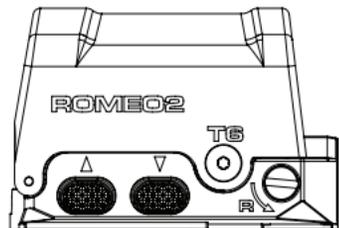

FIG. 4
B. **FULL SHROUD** with sealed rear polycarbonate window. This configuration adds drop and impact protection as well as a water-resistant seal, to prevent foreign materials and moisture from entering the LED emitter area, and is ideal for use in wet environments. (Fig. 4)